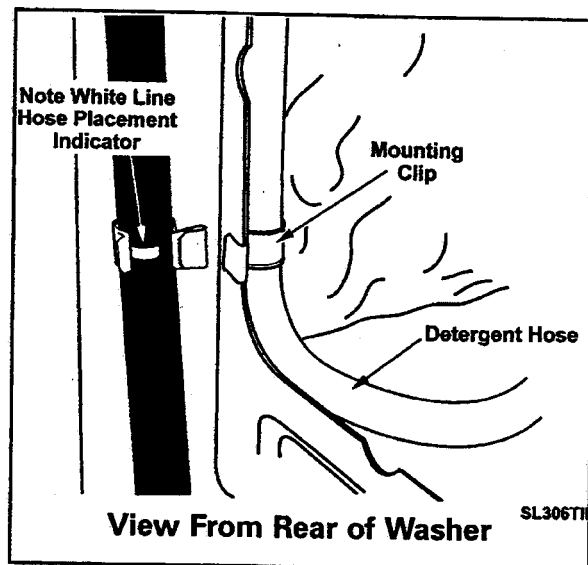

Figure 2-29
3. Locate the rear mounting clip on the detergent hose in the access panel opening and slide the clip off the cabinet flange (Figure 2-29).